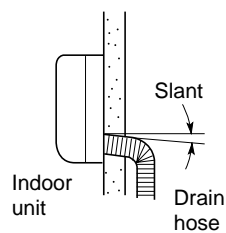

Fig. 3-62
- a) The drain hose should be slanted downward to the outdoors. (Fig. 3-62)